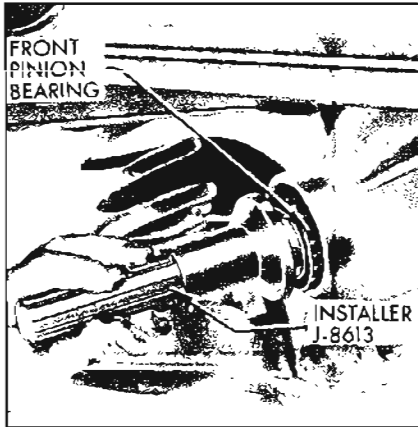

Figure 6-25—Installing Front Pinion Bearing
2. Place front pinion bearing in position on pinion. Hold pinion fully forward and drive bearing over pinion until seated. Use Installer J-21128. See Figure 6-25.